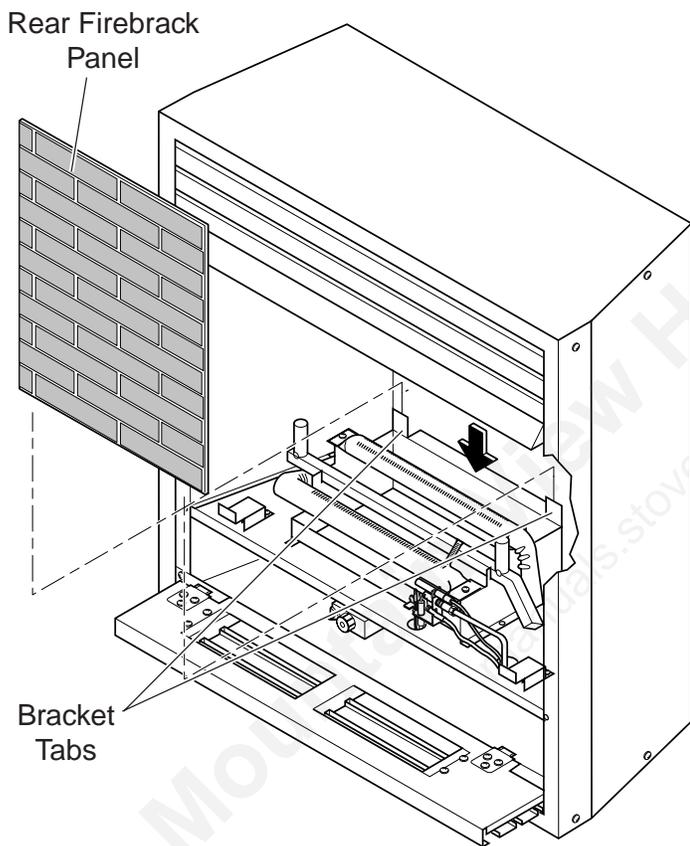

Figure 4 - Installing Back Firebrick Panel
4. Place rear firebrick panel on back wall of firebox. Set bottom of panel behind the bracket tabs of the grate. *See Figure 4.*